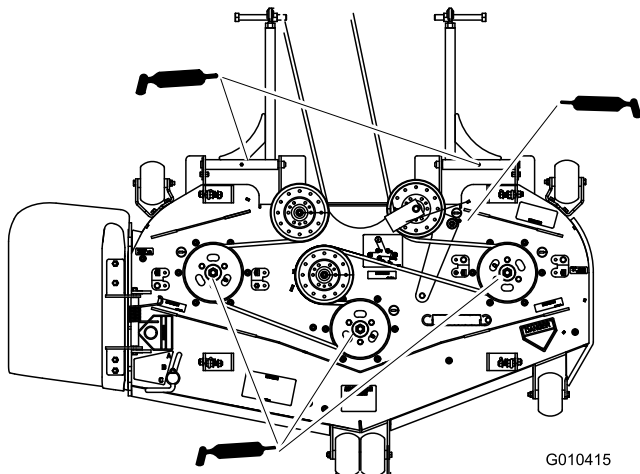

Figure 34
4. Grease the fittings on the 3 spindle bearings (Figure 34).
5. Grease the idler arm on the mower deck (Figure 34).
6. Grease the fittings on the push arms (Figure 34).